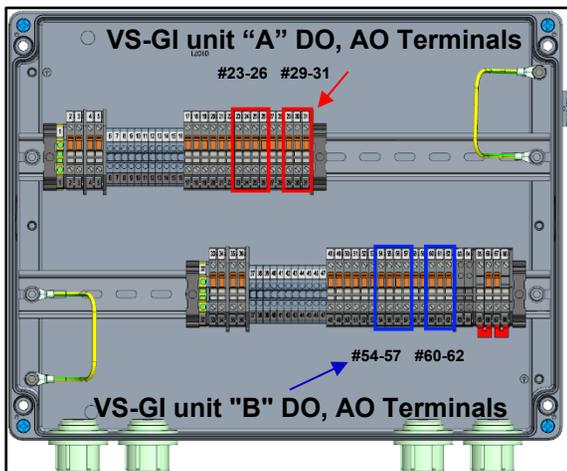
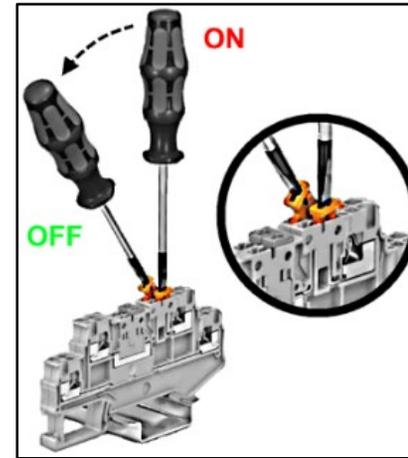
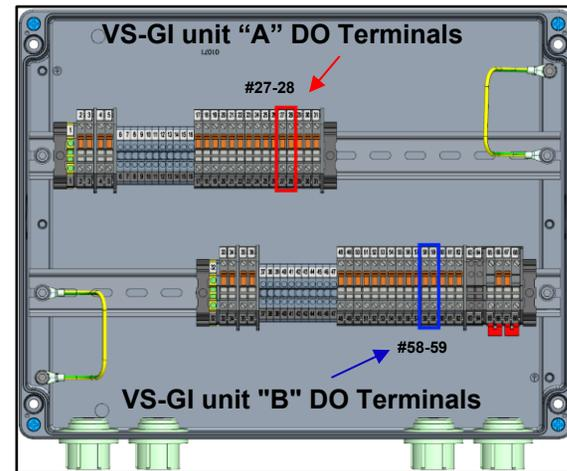

Figure 2-56. Discrete Outputs and Analog Outputs, Terminals Inside VS-DX J-Box
Figure 2-57. Knife Disconnect Terminal Usage
Figure 2-58. Discrete Outputs, Terminals Remaining Open Inside VS-DX J-Box
31. Close the knife disconnect terminals for the newly installed VariStroke [Discrete Outputs] (VariStroke A terminals #23 through 26, 4 terminals) or (VariStroke B terminals #54 through 57, 4 terminals) (Figure 2-56 and Figure 2-57).
32. Close the knife disconnect terminals for the newly installed VariStroke [Analog Output] (VariStroke A terminals #29 through 31, 3 terminals) or (VariStroke B terminals #60 through 62, 3 terminals) (Figure 2-56 and Figure 2-57).
33. Knife disconnect terminals (VariStroke A terminals #27 and 28, 2 terminals) or (VariStroke B terminals #58 and 59, 2 terminals) shall remain open (position OFF) (Figure 2-57 and Figure 2-58).